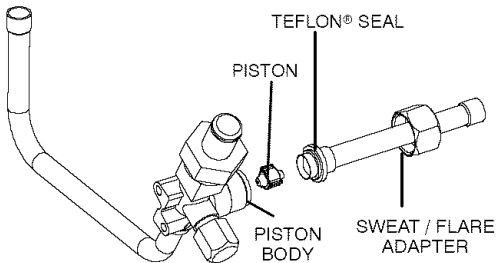

Fig. 3 – Liquid Service Valve with Sweat Adapter Tube
4. Remove Teflon® seal from bag and install on open end of liquid service valve. (See Fig. 3.)